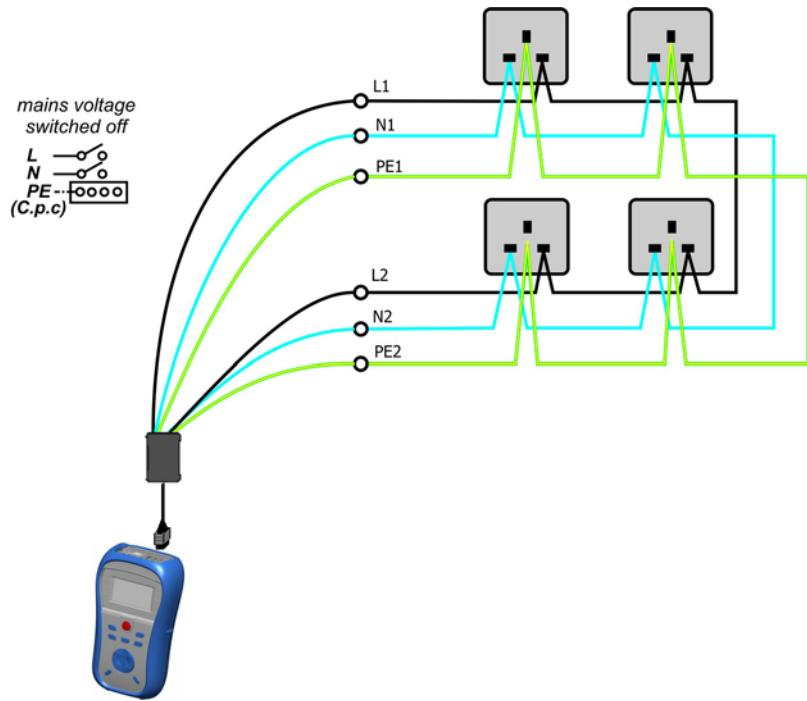

Figure 5.17: Step 1 - measurement of resistances r_1 , r_N and r_2
- Connect** Easy Switch to the instrument (see *figure 5.17*)
- Connect Easy switch** to the final ring circuit. The electrical installation must be de-energized during the test (see *figure 5.17*).